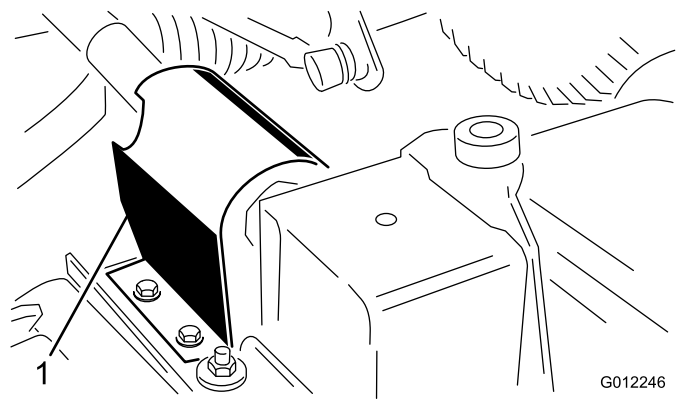

Figure 8
2. Remove the 2 self-tapping screws securing the PTO shield to the top of the cutting unit gear box mounting plate and remove the shield (Figure 8).
5. Secure the ball joint mount to the castor arm with (2) capscrews (7/16 x 3 inches), flat washers (7/16 inches), and flange nuts (7/16 inches). Position the capscrew head and the flat washers to the outside of the castor arm.